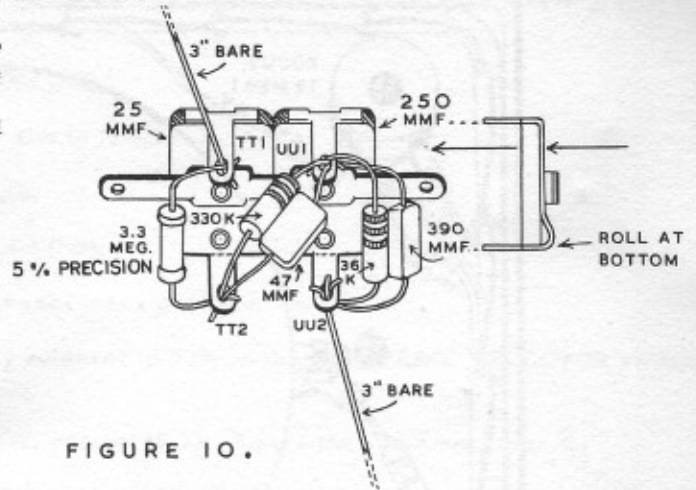

FIGURE 10.
- () Identify the dual trimmer assembly by reference to Figure 10. Position the part so that the roll of the trimmer plates is down, as shown in the Figure. Connect a 3.3 megohm 5% precision resistor from TT1 (NS) to TT2 (NS).
- () Connect a 330 K Ω resistor (ORANGE, ORANGE, YELLOW) from TT2 (NS) to UU1 (NS).
- () Connect a 47 pF mica capacitor from TT2 (NS) to UU1 (NS).
- () Connect a 36 K Ω resistor (ORANGE, BLUE, ORANGE) from UU1 (NS) to UU2 (NS).
- () Connect a 390 pF mica capacitor from UU1 (NS) to UU2 (NS).